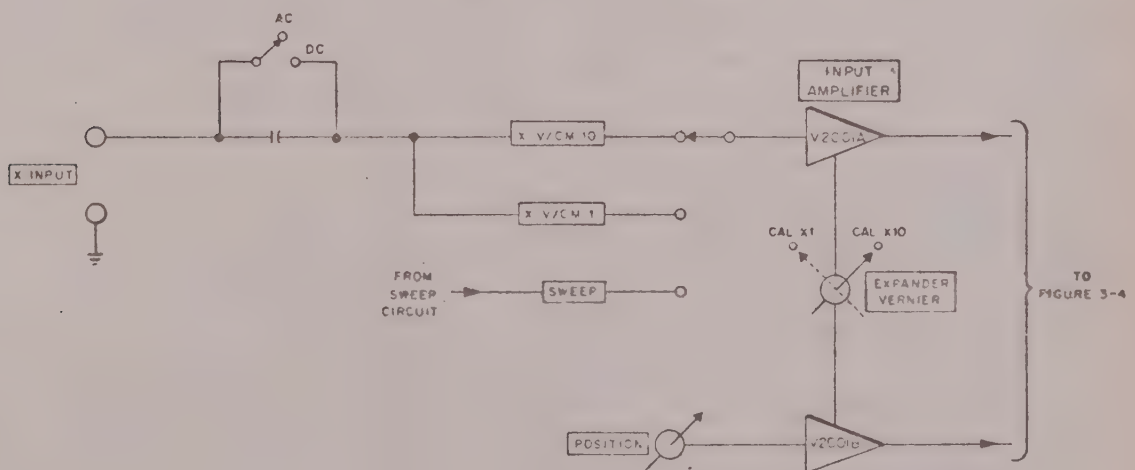

Figure 3-3. X Input Circuit, Simplified Functional Block Diagram
- Figure 3-3. X Input Circuit, Simplified Functional Block Diagram
3-3. HORIZONTAL DEFLECTION SYSTEM (Figures 3-3 and 3-4)